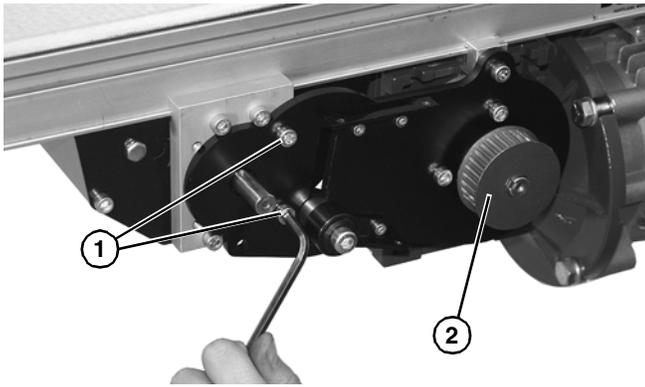

**Figure 2**
2. Install gearmotor and plate (**Figure 2, item 1**) onto conveyor frame channel (**Figure 2, item 2**) with retaining clip assembly (**Figure 2, item 3**) and socket head screw (**Figure 2, item 4**). Secure bottom with two socket head screws (**Figure 2, item 5**). Do not tighten screws at this time.
3. If required, change gearmotor position by removing four (4) screws (**Figure 2, item 6**). Rotate gearmotor to other position and replace screws. Tighten to 103 in-lb (12 Nm).